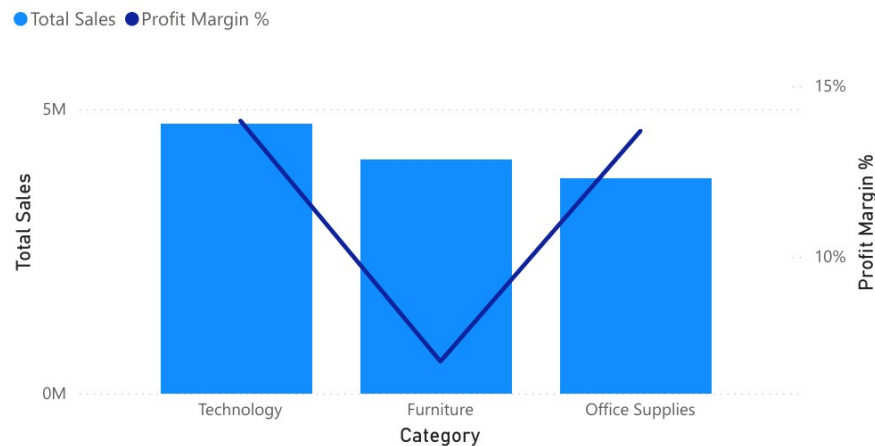

Figure 3: Sales (bars) vs Profit Margin % (line) by Category (combo chart).
- **Grow Technology and Home Office.** Figures 3 and 6 show these are the highest-margin category and segment — the safest places to push volume.